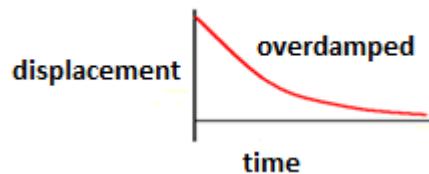

Figure 8: Heavy damping or overdamped motion
In this case, $\sqrt{b^2 - \omega^2}$ is real and less than b, therefore in equation (4) both the exponents are negative. It means that the displacement 'y' of the particle decreases continuously with time. That is, the particle when once displaced returns to its equilibrium position quite slowly without performing any oscillations (Fig.8). Such a motion is called '*overdamped*' or '*aperiodic*' motion. This type of motion is shown by a pendulum moving in thick oil or by a dead beat moving coil galvanometer.